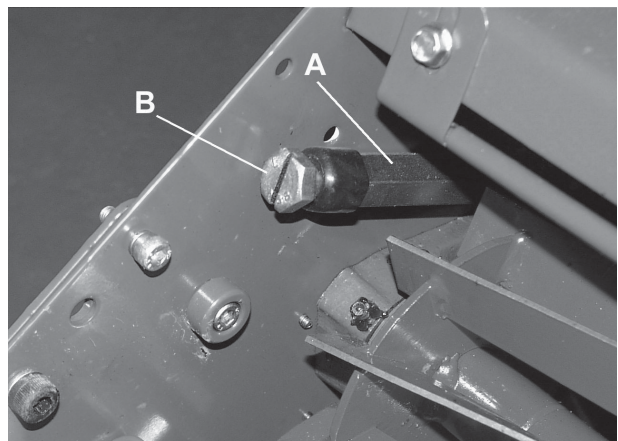

Fig. 8.4
8.4 CYLINDER TO BOTTOM BLADE ADJUSTMENT (Fig. 8.4)